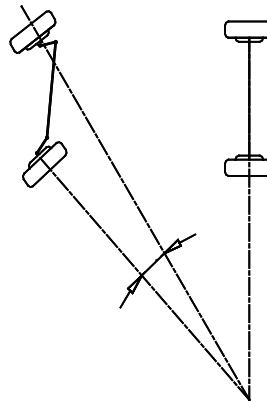

Figure 1.5
- Toe-out on turns is defined as the difference of the steering angle between the two front wheels when turning left or right by 20°. see Figure 1.5. When the vehicle turns, the inner wheel angle is always bigger than the outer wheel, difference is about 2 degrees, the purpose is to make the vehicle turn by referenced to the instant center point of the extend line of back axis.